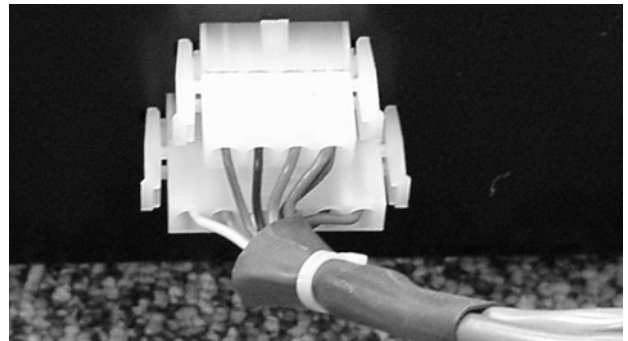

Figure 1. Connection to Housing
2. Connect the motor control box to the control circuit housing (see Figure 1, Figure 2, and Figure 3).